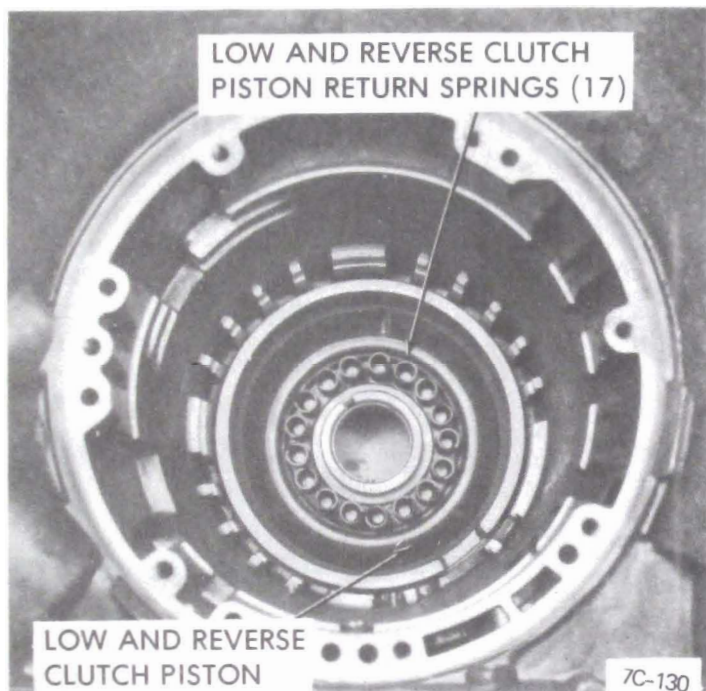

Figure 7C-210
4. Install seventeen (17) piston return (coil) springs. See Figure 7C-210. Return springs are orange in color.